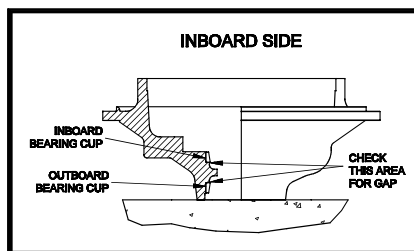

Figure 6.3.3—Installation of Inboard and Outboard Bearing Cups
3. With a 0.001" or 0.040 mm feeler gage, make sure that there is no gap between the housing and the bearing cups to insure proper cup seating; reference Figure 6.3.3.